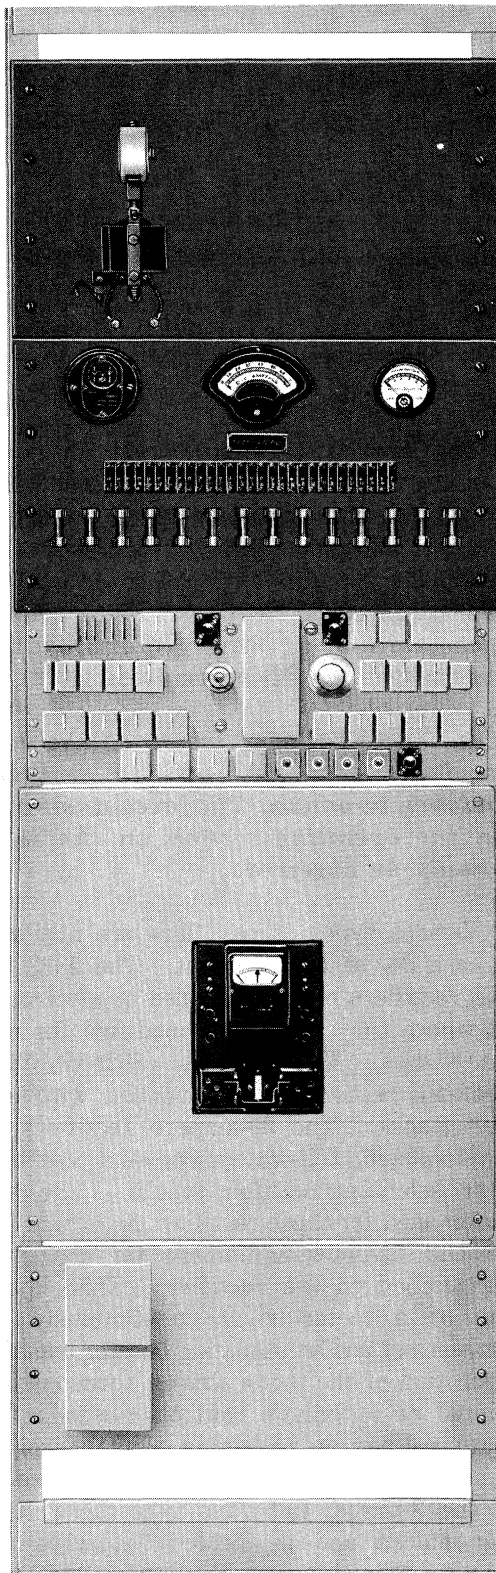

Fig. 1—Typical Charge Bay For 110A 48-Volt Plants
1.01 The 110A (J86572) power plant (Fig. 1) has a capacity of 10 to 120 amperes at 22 to 26 volts, or 10 to 400 amperes at 44 to 50 or 44 to 52 volts. This power plant may be used with any system where the capacities and voltage ranges are suitable. The 110B (J86455) power plant has a capacity of 5 to 80 amperes at 24 volts. This power plant was primarily intended for use with the submarine cable system. However, it may also be used with any system where the capacities and voltage range are suitable. The 24-volt plant utilizes 30-ampere rectifiers and the 48-volt plant utilizes 30- and/or 100-ampere rectifiers as the charging medium. The 30-ampere rectifiers operate from a single-phase, 210- to 250-volt, 60-hertz, commercial ac power service. The 100-ampere rectifiers operate from a 3-phase, 210-volt, 60-hertz, ac power service and, with an additional autotransformer provided,